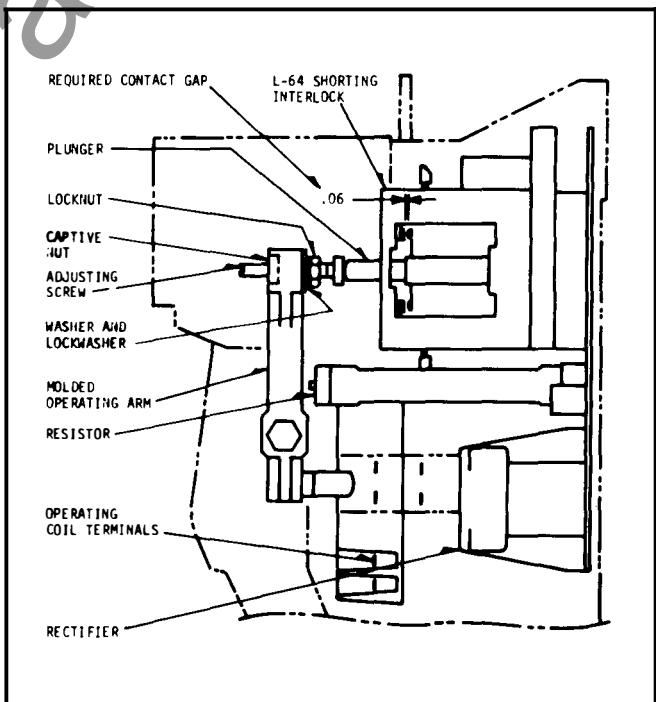

Fig. 6 Adjustment of Type L-64 Shorting Interlock (From Dwg. 3512C85)
- Type L-64 shorting interlock contact gap. For required gap see Fig. 6; for adjustment procedure see Maintenance instructions.
For proper contactor operation, the Type L-64 shorting interlock is to be initially adjusted for .06 contact gap between its stationary and moving contacts with the contactor fully closed. This gap must never be less than .02" nor more than .08". If adjustment is required, see Fig. 6 and follow this procedure:
- 4) Turn adjusting screw (screwdriver slot) to obtain the required .06 gap shown in Fig. 6.